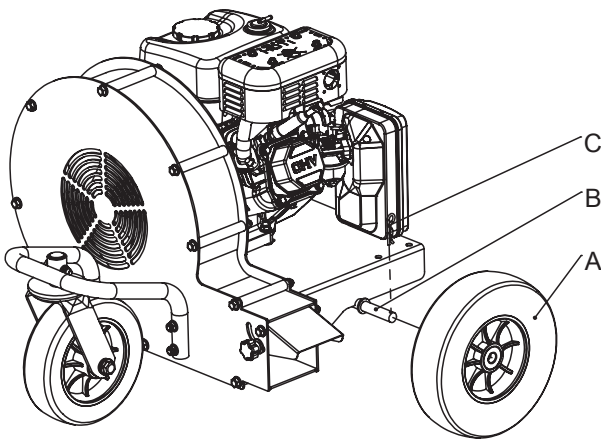

Figure 3
1. Install the 10 " back wheel (A) on both sides of the axle (B), then insert the R pin (C) into the axle (B) and fix it. (See Figure 3).